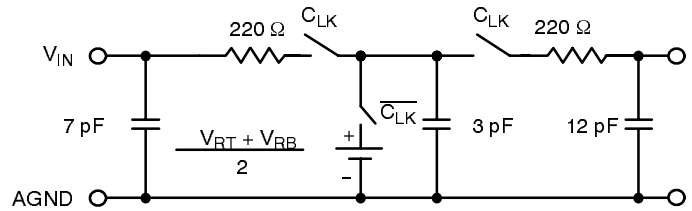

Figure 2. Input Equivalent Circuit
- ⁵ See V_{IN} input equivalent circuit (Figure 2.). Switched capacitor analog input requires driver with low output resistance.
The ideal ADC is a linear building block that has infinite bandwidth and no phase distortion. A real ADC, however, exhibits finite bandwidth and non-constant group delay characteristics as well as non-linear behavior due to the non-zero INL characteristic. When modeling the ADC as a linear element and a quantizer, the circuit shown in Figure 2. can be used in order to represent the ADC's bandwidth.
1. Driving the analog input – The input impedance can be represented as a switched capacitor type input circuit, i.e. the input impedance changes with the phase of the input clock. Figure 2. shows an equivalent input circuit. In many applications, the input impedance can be treated as capacitive. For fast signals and a high driving impedance, a wide bandwidth op amp is recommended.